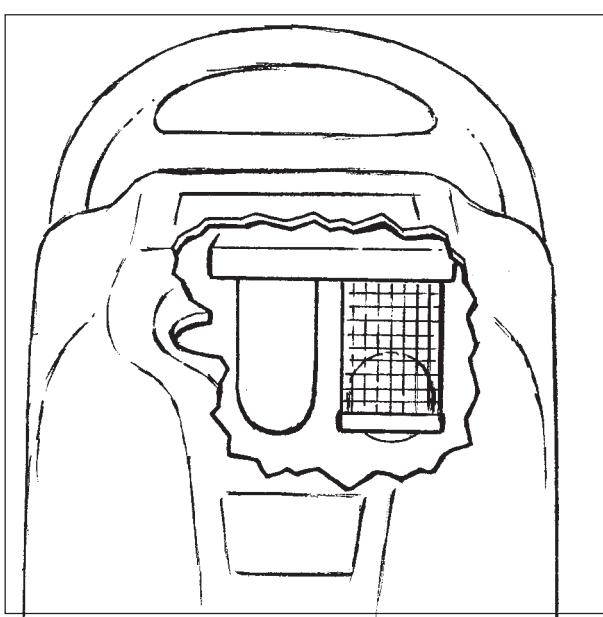

Figure 2
**NOTE:** To avoid vacuum motor damage, always inspect the float filter and ball. Verify ball travels easily prior to use of unit. See Figure 2